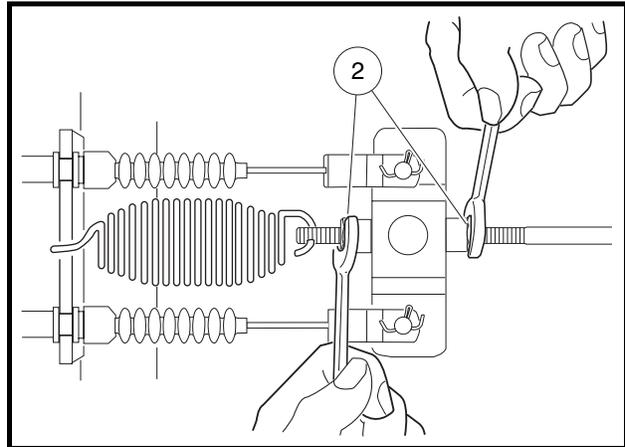

Figure 5-10 Loosen Front Brake Equalizer Rod Nuts
- 2.3. **Four-wheel brake vehicles only:** Loosen the front brake equalizer rod (**Figure 5-10, Page 5-12**).